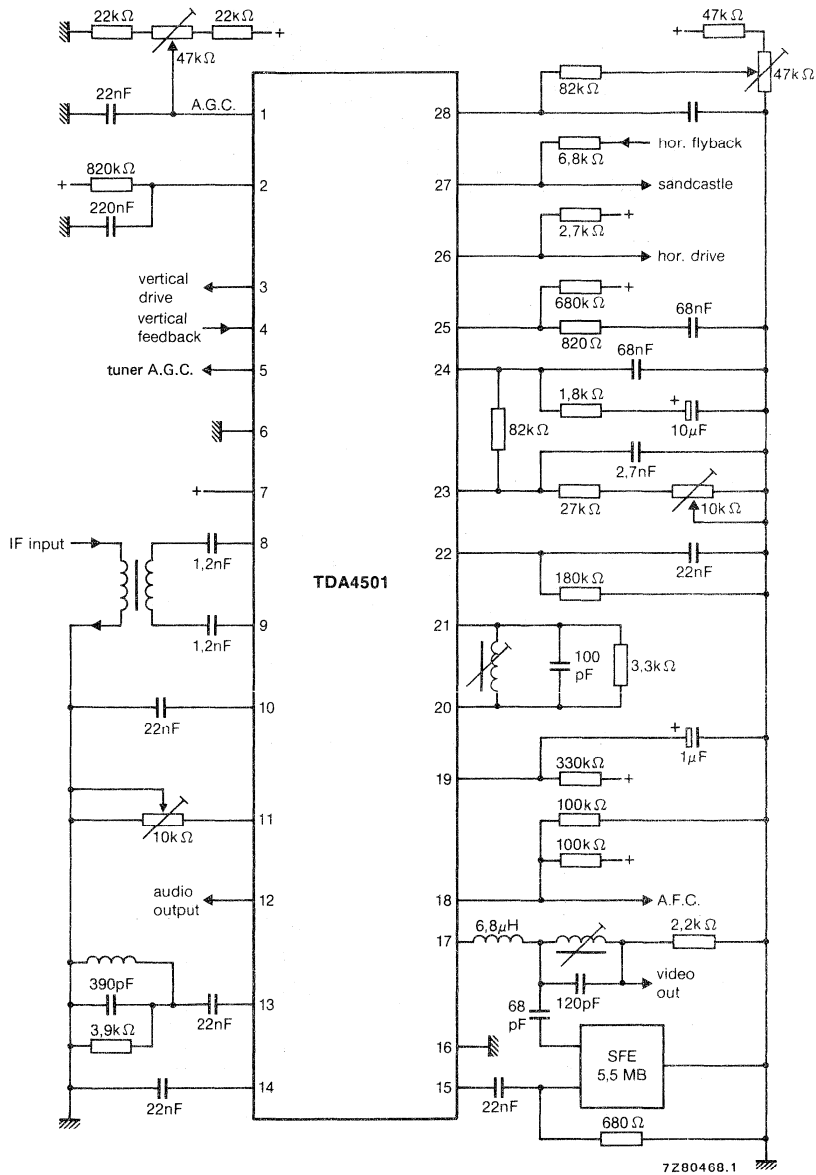

Fig. 2 Application diagram.
4.  $V_{i(\text{rms})} = 10 \text{ mV}$ ; see Fig. 2; Q-factor = 36.